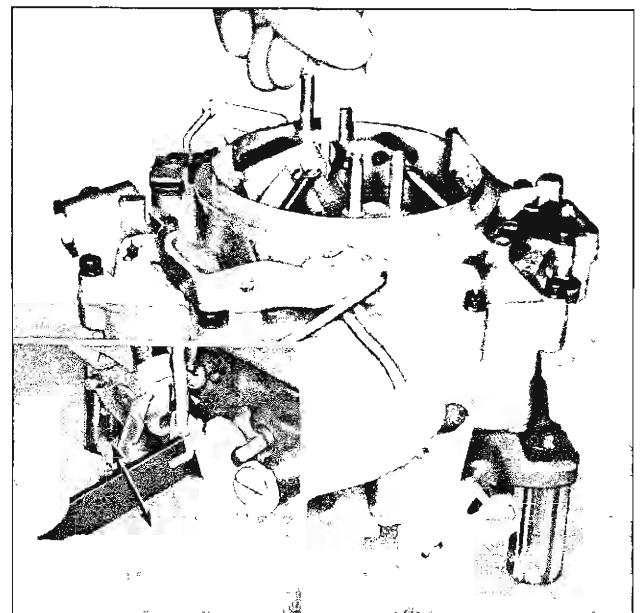

Fig. 54—Choke Unloader Adjustment
Choke Unloader Adjustment (Fig. 54)
2. Hold in this position and carefully bend tang of fast idle cam to obtain a clearance of $\frac{1}{8}$ " or .125", as measured with .125" Gage, J-21608, between top edge of choke valve and dividing wall in cover. Use Bending Tool, J-5197 (fig. 54) on fast idle cam tang.